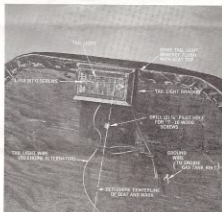

Figure 6
- To attach the taillight bracket to the seat back, (the larger of the two cushions is the back), position bracket flush with the seat top and on centerline. (See Fig. 6.) After correctly positioning, mark the seat back through the two holes in the taillight bracket. Using a 3/8" drill bit, carefully drill on your marks through the plywood seat back (BE CAREFUL NOT TO PUNCTURE THE COVER). Mount taillight bracket to the seat back through drilled holes using (2) #7 - 16 x 3/4" long wood screws.
- Remove (2) screws which hold the lens on the taillight body. Guide the lead wire of the taillight through the 1" diameter hole in the taillight bracket and with (2) #6 - 32 x 3/8" long round head machine screws and (2) #6 - 32 hex nuts, secure taillight to taillight bracket. Use a #6 SAE washer under the head of the machine screws and under the nuts. Also attach the ground wire to one of the machine screws by positioning between the washer and the inside of the taillight bracket. Replace lens. (See Fig. 6)
- Attach taillight ground wire to engine gas tank mounting bolt. (Fig. 6)